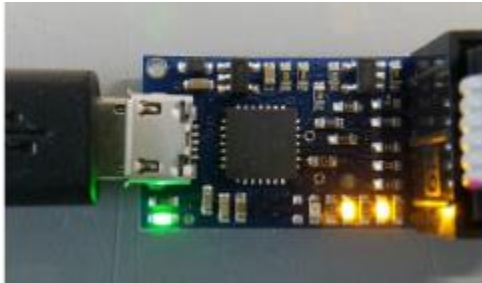

Figure 1 Pololu Programmer LEDs
- 5.Attach the USB cable from the computer to the USB connector of the Pololu programming device. See Figure 1.
7. Verify programmer LEDs are illuminated as per Figure 1 to validate that 5v power is being applied by the programmer. You can now safely close the Pololu USB programming software configuration program.
8. Attach the 6-pin ribbon cable from the programmer to the ICSP connector on the SD DDP PCB. The red strip on the ribbon designates Pin-1 of the connector. See Figure 1 and 2 for details.